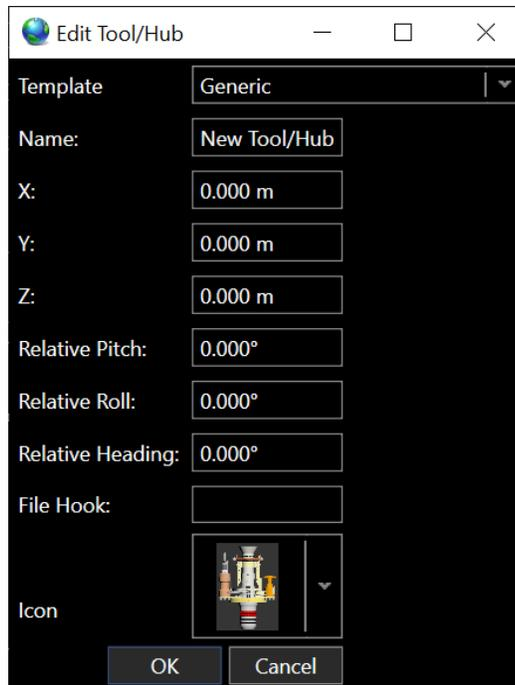

FIGURE 23 EDIT TOOL/HUB DIALOG
1. Click the New Hub on Structure button to display the Edit Tool/Hub dialog, see Figure 23.
2. The Edit Toll/Hub dialog will be shown as in Figure 23. Once added, the new item will be shown in the structure's Attached Items view as a sub item of the selected hub.